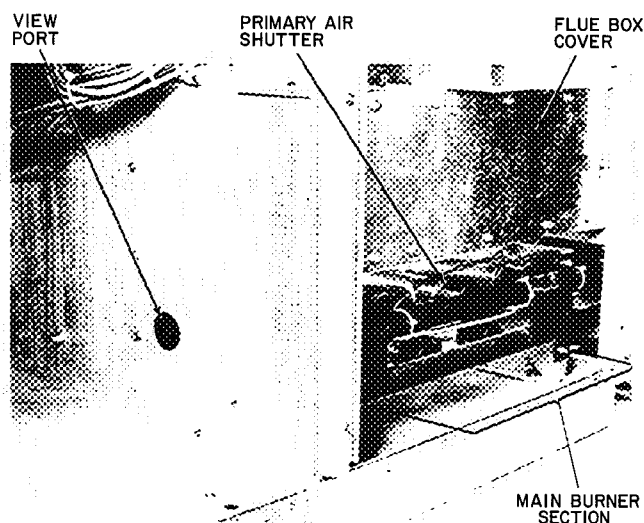

Fig. 31 — Typical Heating Section
5. With a small screwdriver, turn adjustment screw until flame fully engulfs sensor. Flame can be observed through view port (Fig. 31).
4. Loosen primary air shutter (Fig. 31) and adjust to a minimum opening of 5/8 inch.